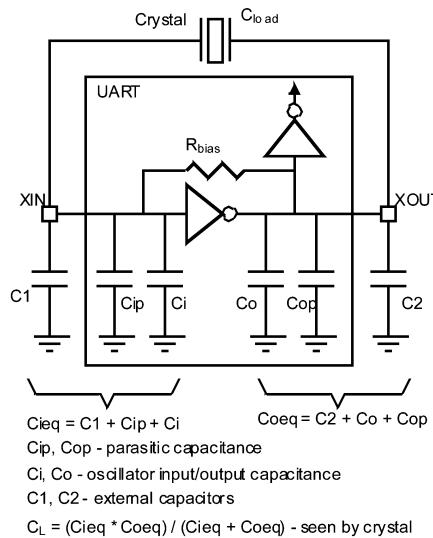

Figure 18. Crystal Oscillator Circuit
4. The load capacitance of the crystal should match the load capacitance of the oscillator circuitry seen by the crystal. Under the AC conditions, the oscillator load capacitance is a lump sum of parasitic capacitance and external capacitors. The capacitances connecting to oscillator input and output are in series seen by the crystal. (Figure 18.) External capacitors, C1 and C2, are not required to be very accurate. The best practice to follow crystal manufacturer's recommendation for the load capacitance value.